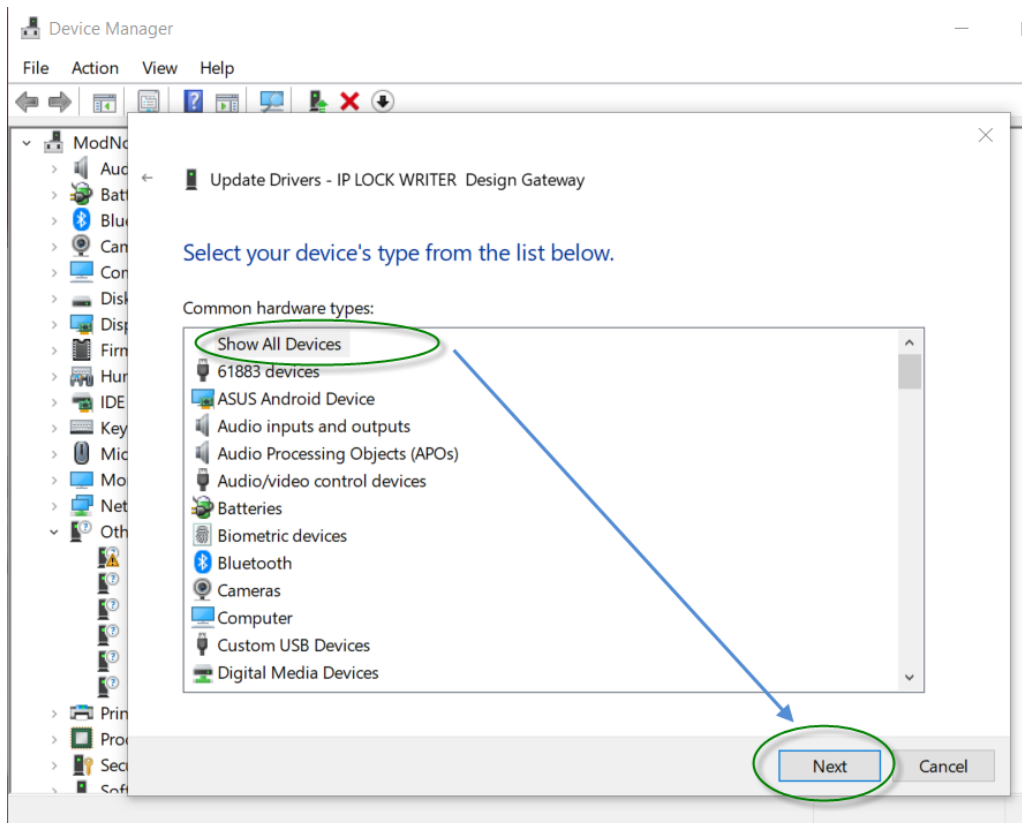

Figure 7-4 Select device's type from the list
4. Select "Show All Devices" then click "Next". (Figure 7-4)